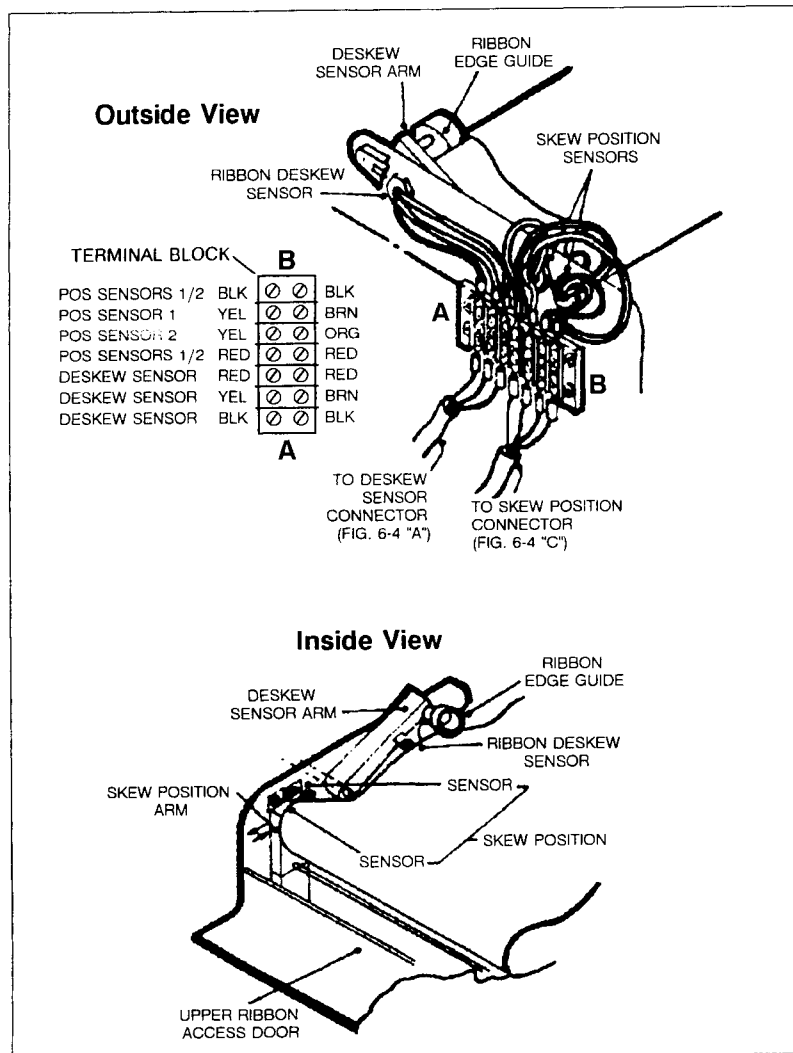

Figure 6-40. Ribbon Deskew and Position Sensors
The RIBBON DESKEW sensor is located on the upper left portion of the ribbon drive mechanism, at the highest point in the ribbon path (see Figure 6-40). The sensor is activated by a deskew sensor arm that "dances" along the top left edge of the ribbon. When the ribbon skews toward the right, the arm flops down and contacts the sensor.
- a. Switch the printer offline and the ON/OFF switch to the OFF (0) position.
- e. Remove the red, black and yellow wires from terminal block located on the left end wall of the print mechanism (see Figure 6-40).